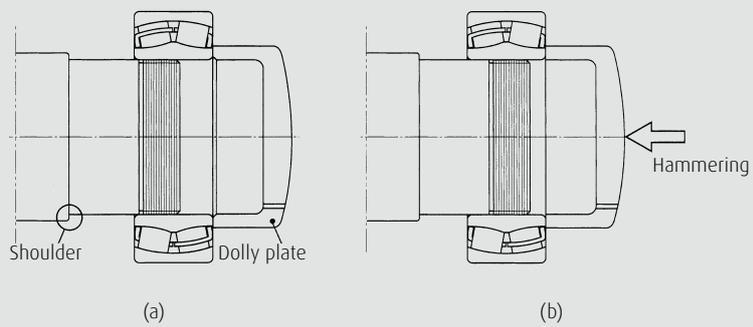

Fig. 6.1 Hammer method
## 6.2.1 Hammer Method (Fig. 6.1)
3. After inserting the bearing, make the contact as even as possible between the chamfered part of inner ring end face of bearing and the bearing mounting place of shaft. The aim is even contact between the flat face of the dolly plate and the end face of the inner ring on the shaft. **(Fig. 6.1 (a))**
4. When the flat face of the dolly plate is perpendicular to the shaft center, use a hammer to tap the top of the dolly plate on the hammering side. **(Fig. 6.1 (b))**